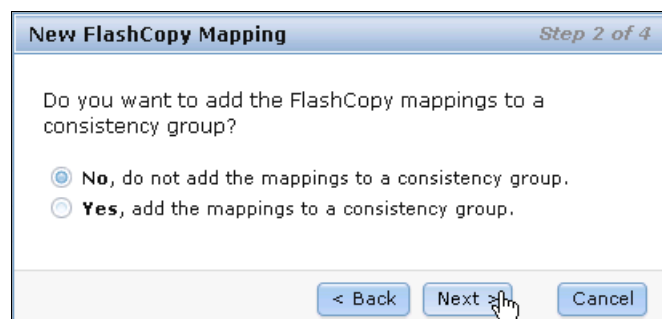

Figure 10-20 Add FlashCopy mapping to a consistency group
4. In the next step, you can add your FlashCopy mapping to a consistency group, as shown in Figure 10-20. If the consistency group is not ready, the FlashCopy mapping can be added to the consistency group afterward. Click **Next** to continue.